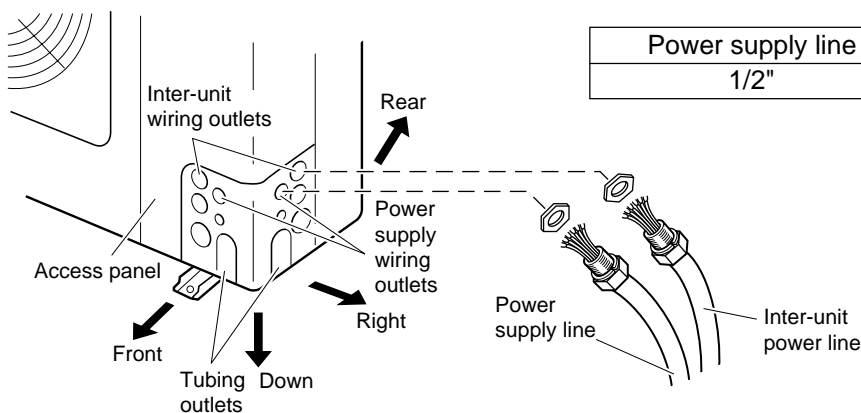

Fig. 36
- Tubing can be extended in 4 different directions as shown in Fig. 36.